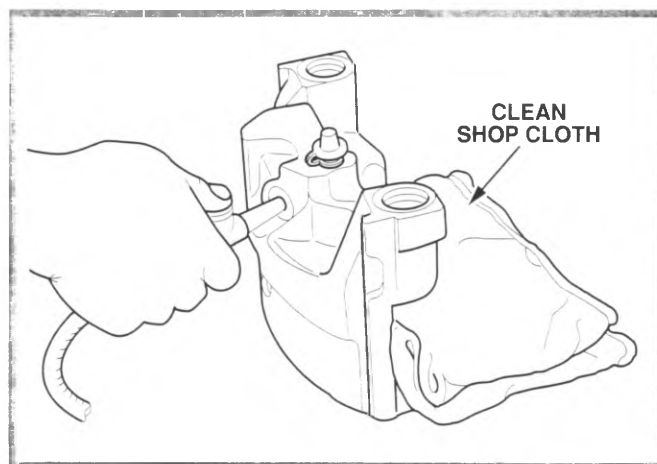

Figure 6-29, Remove Piston
4. Pad the inside of the caliper with clean shop cloths. Remove the piston by gradually directing compressed air into the caliper fluid inlet as shown in figure 6-29. The piston will blow out of the housing with considerable force.